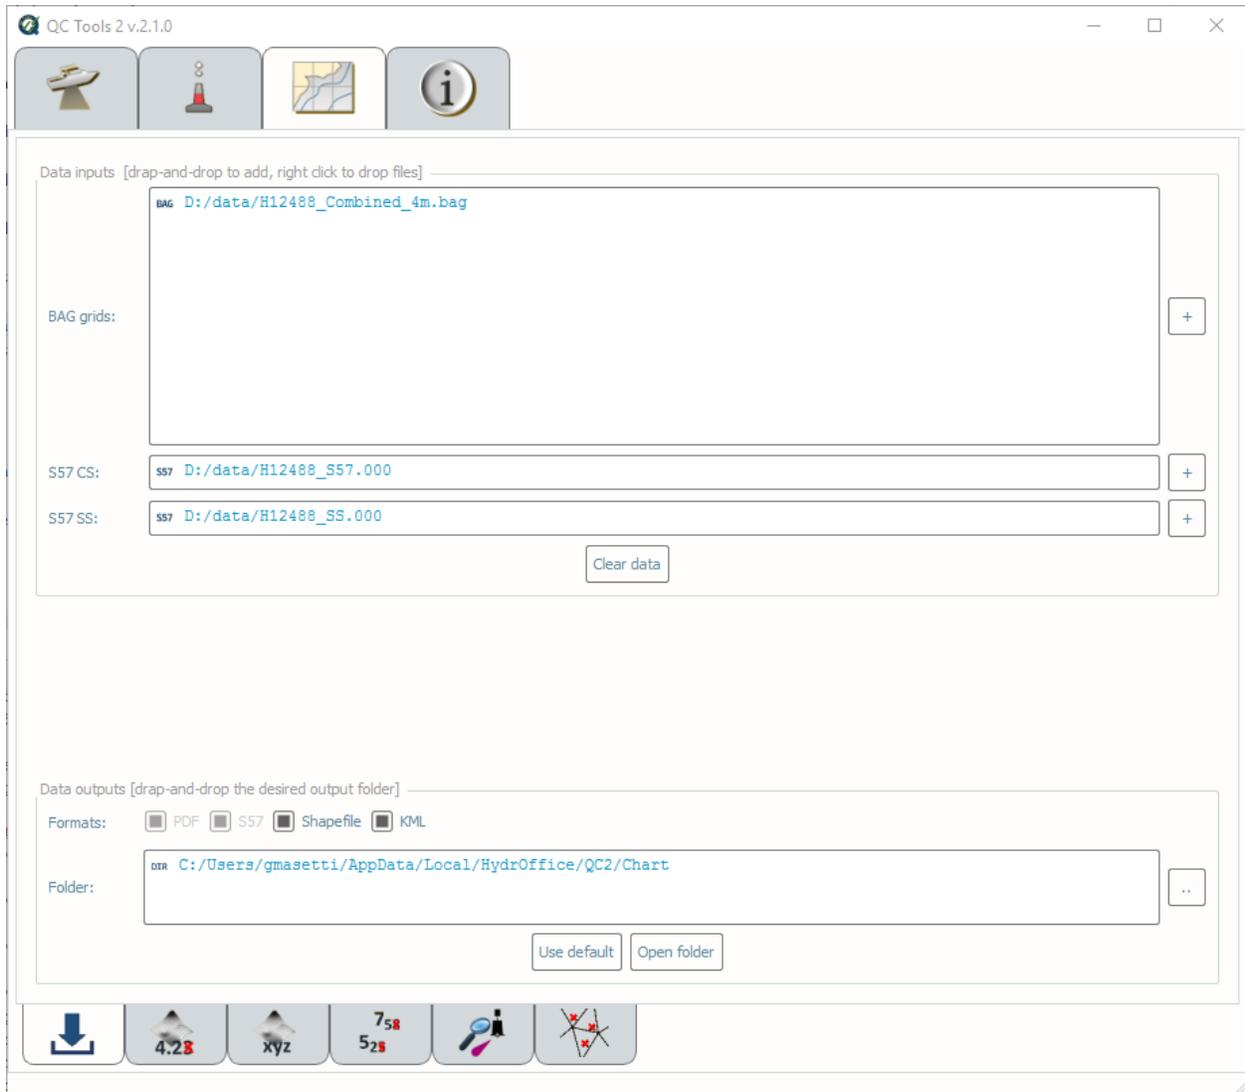

Fig. 2.41: Chart review tab.
- With the addition of a grid, feature file, and survey sounding selections, the **BAG truncate**, **BAG xyz**, **S57 truncate**, **Triangle Rule**, and/or **Scan Features** tabs on the bottom of the interface will become available (Fig. 2.41).